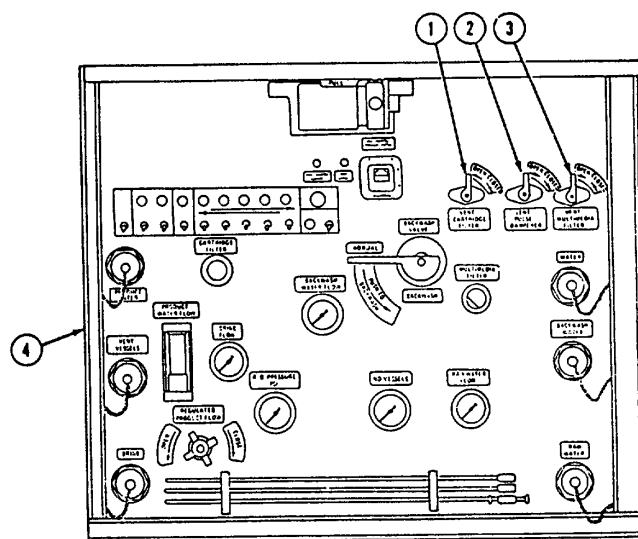

FIGURE 2-40. VENT VALVES
1. VENT CARTRIDGE FILTER (see figure 2-40)
2. VENT PULSE DAMPENER (see figure 2-40)
3. VENT MULTIMEDIA FILTER (see figure 2-40)